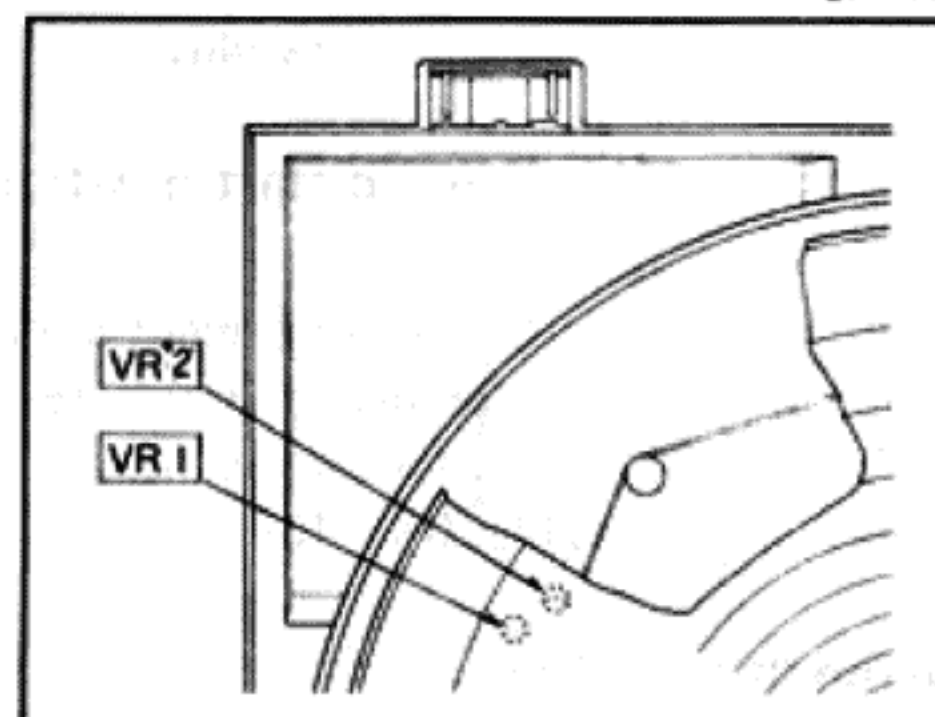

Fig. 19
7. As the more simple method, it is also possible to adjust VR1 and VR2 by removing the turntable mat. (See Fig. 19)